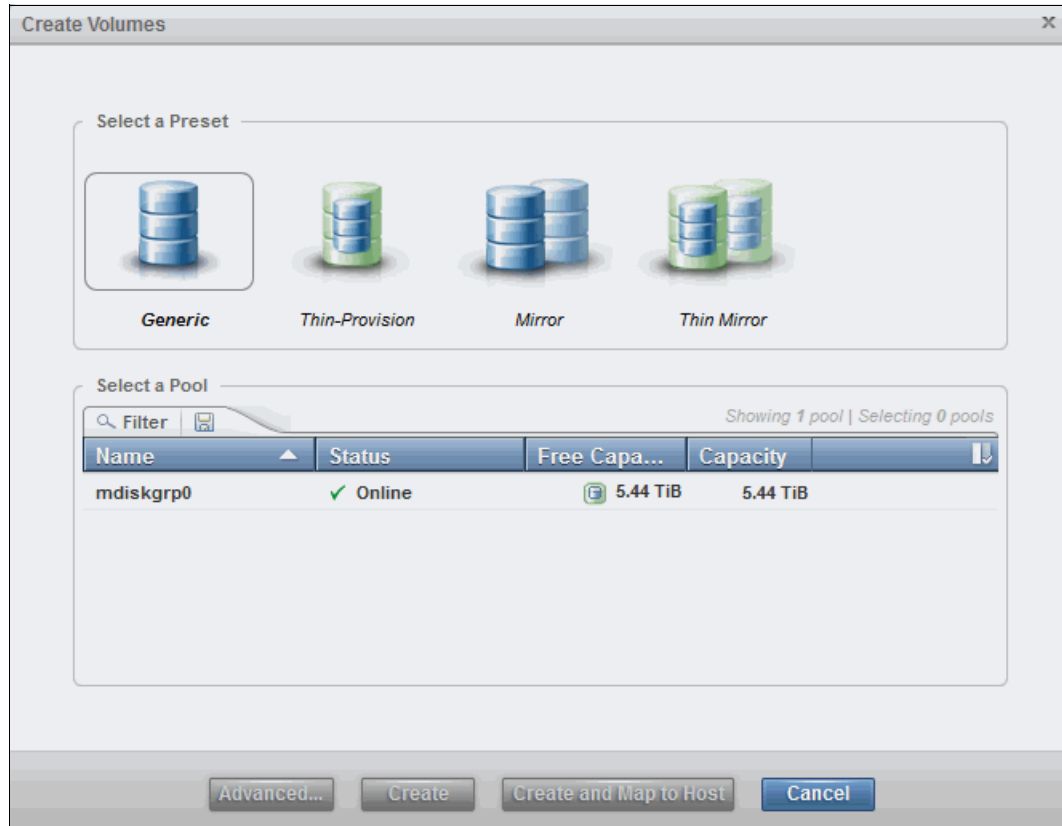

Figure 5-3 Selecting a volume preset and pool in the Create Volume wizard
2. Click **Create Volumes** to open the Create Volumes wizard, as shown in Figure 5-3 on page 201.